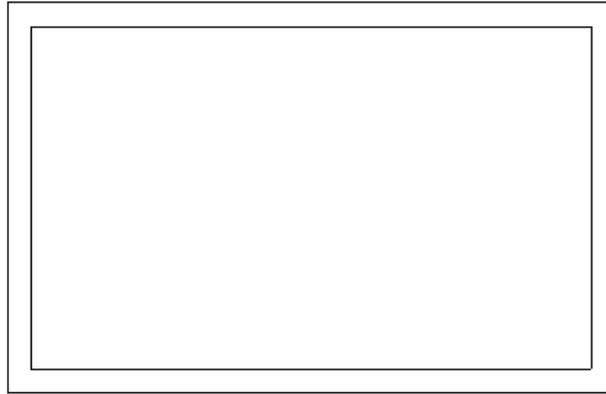

Figure 3-40 The completed exterior wall profile
3. Press ESC to remove the wall segment from the selection set. The external wall profile is completed for this tutorial, as shown in Figure 3-40.